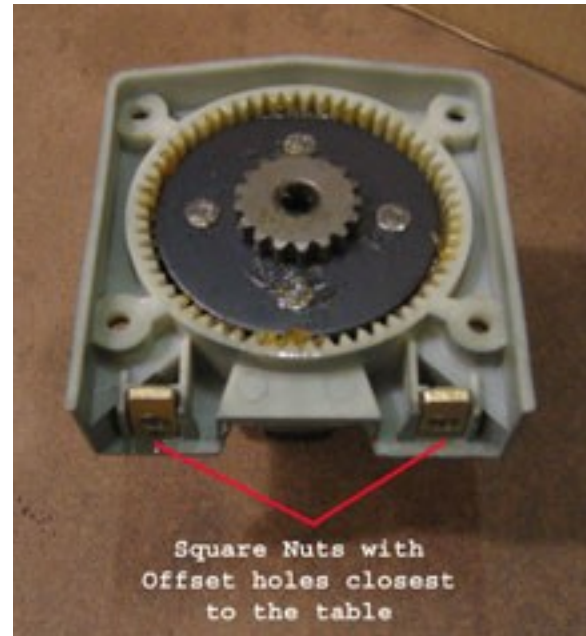

Fig. 4
9. Place the Square Nuts back in the Housing with the offset holes closest to the table. Place the Drum Support over the end of the housing, making sure that all the holes for the bolts line up correctly. [See Fig. 4]